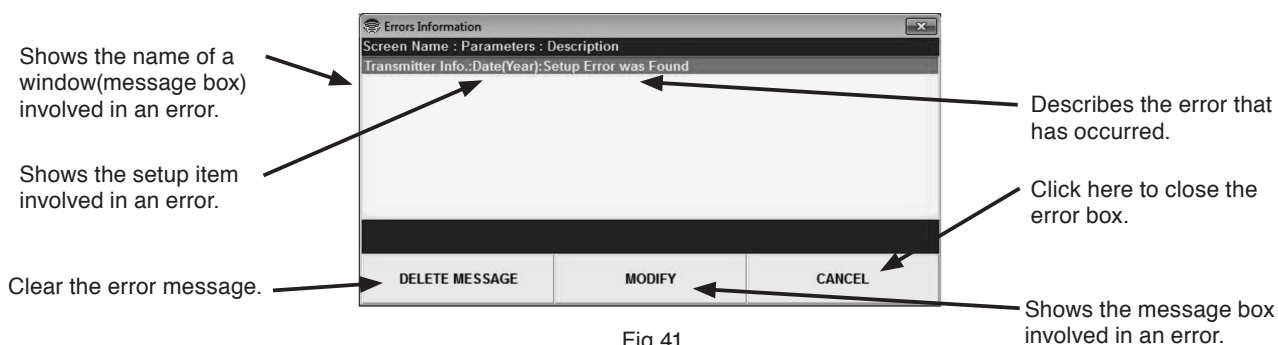

Fig.41
- ② A little later, an error box "Communication error" as shown in Fig. 41 appears. Confirm the nature of error at this point. The faulty setup data that has been entered is canceled and the previous setup data is restored. For safety's sake, check the current settings against those in the parameters list or the database by opening the respective window.